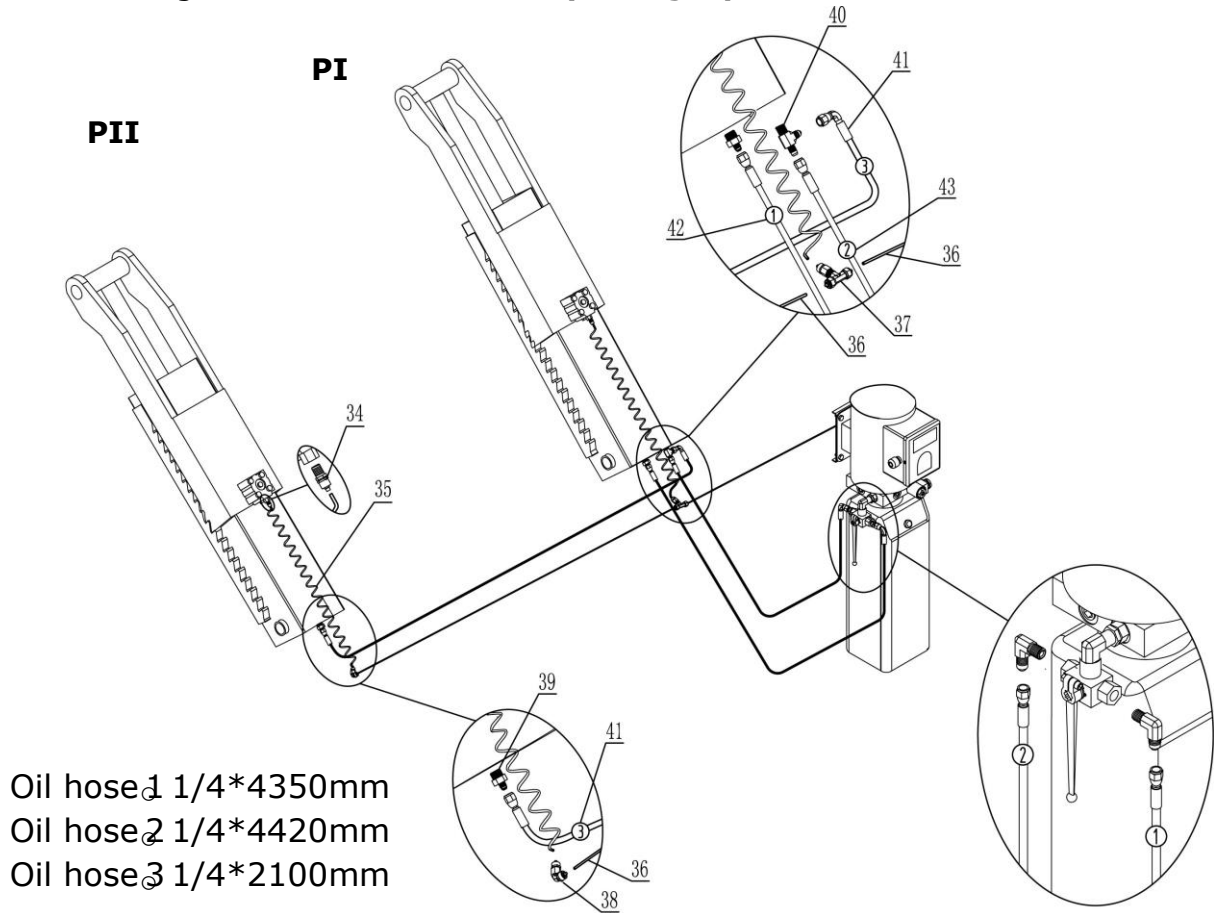

Fig. 9
2. Connecting the oil hose and air line (See Fig. 9).